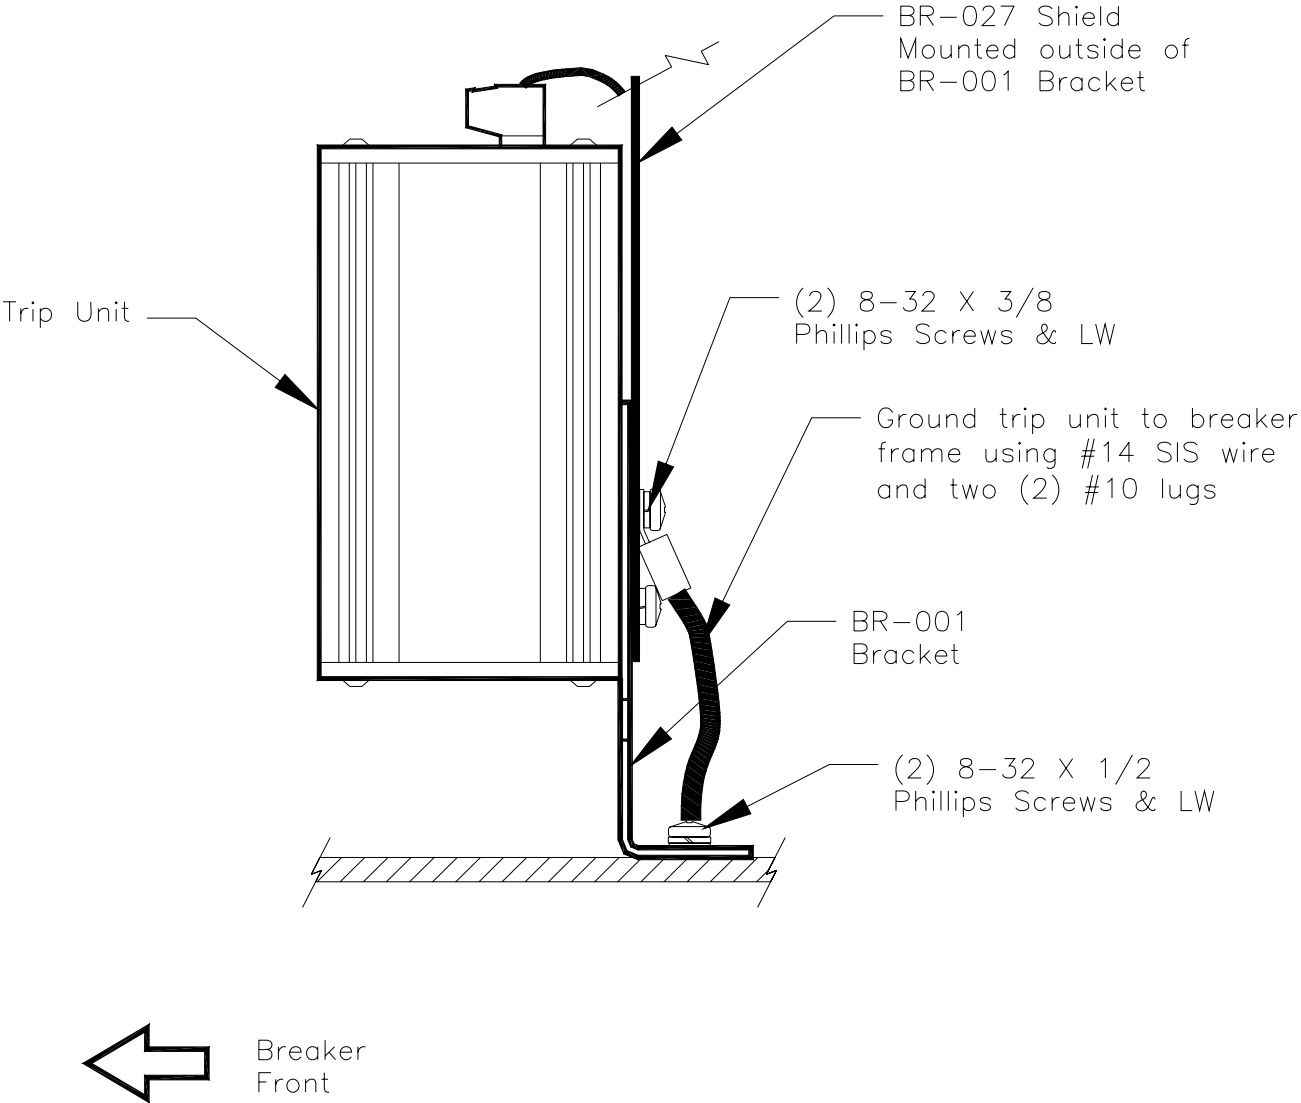

FIGURE 2
- 1) Attach BR-001 bracket and BR-027 shield to the back of the AC-PRO using two (2) 8-32 X 3/8 screws and lock washers as shown in Figure 2.
- 2) Set the trip unit in position and mark the location of two (2) mounting holes.
- 3) Drill & tap two (2) 8-32 holes in the locations marked.
- 4) Attach the trip unit/bracket assembly to the breaker top mechanism platform using two (2) 8-32 X 1/2 Phillips screws, and lock washers in the two (2) previously tapped holes.
Ground the trip unit as follows: (See Figure 2)